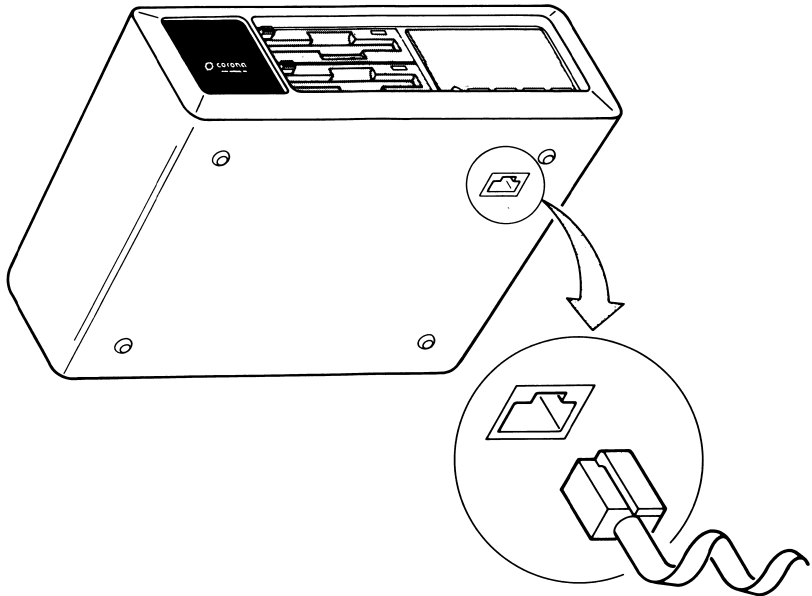

Figure 5-2. Connecting the Keyboard to the Desktop System Unit
4. Plug the other end of the keyboard cord into the connector that is near the upper right-hand corner of the bottom of the system unit. (See Figure 5-2.)